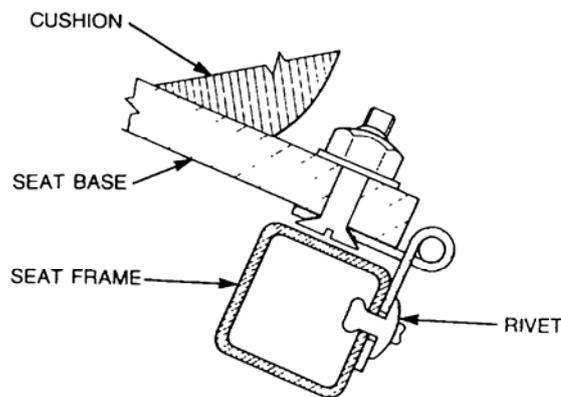

Figure 9 Rear Seat Hinge Replacement
- g. Remove the hinge (refer Figure 9).
- h. Position the new hinge on the seat frame and secure it with five rivets as shown in Figure 9.